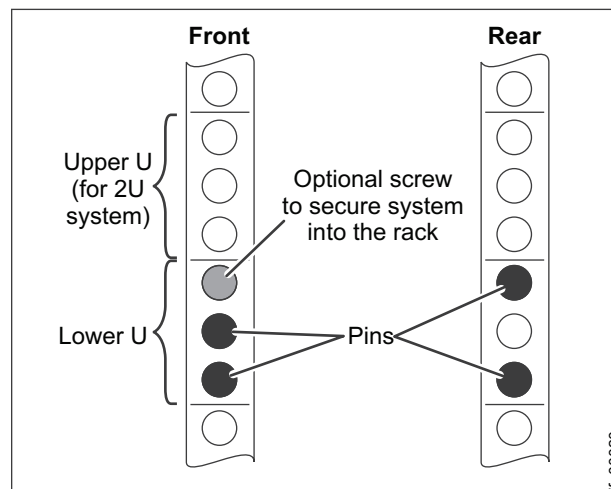

Figure 37. Locate a 2U space in the lower section of the rack.
2. Select an available 2U space in the rack to install the file modules. Refer to Figure 37.